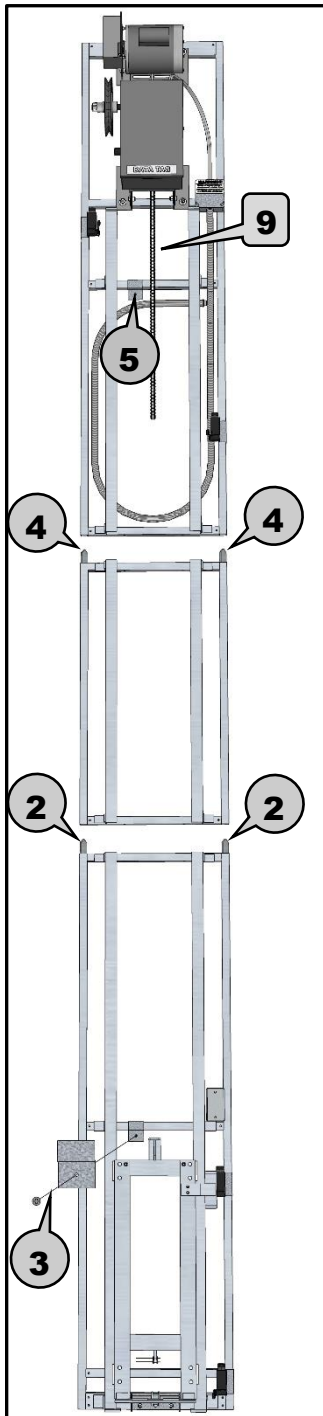

Figure 4
NOTE: For motor on top configuration, make sure the chain bundle is positioned down the track & rail in between track and not behind rail. (see Page 11, Figures 4 & 5, **9**)
- 2** Drop two (2) stacking pins into the top of the two outer vertical tubes of the bottom section, and position section centered against the mounting wall. (see Figure 4)
- 3** Use provided frame clip and 2" screw to temporarily hold section in place against the wall. Make sure screws go into solid wood. (see Figure 4)
- 4** Drop two (2) stacking pins into the top of the two outer vertical tubes of the next section, and position section on top of previous section using the stacking pins to guide it into place centered against the mounting wall. (see Figure 4)
- 5** Use provided frame clip and 2" screw to temporarily hold section in place against the wall. Make sure screws go into solid wood. (see Figure 4)